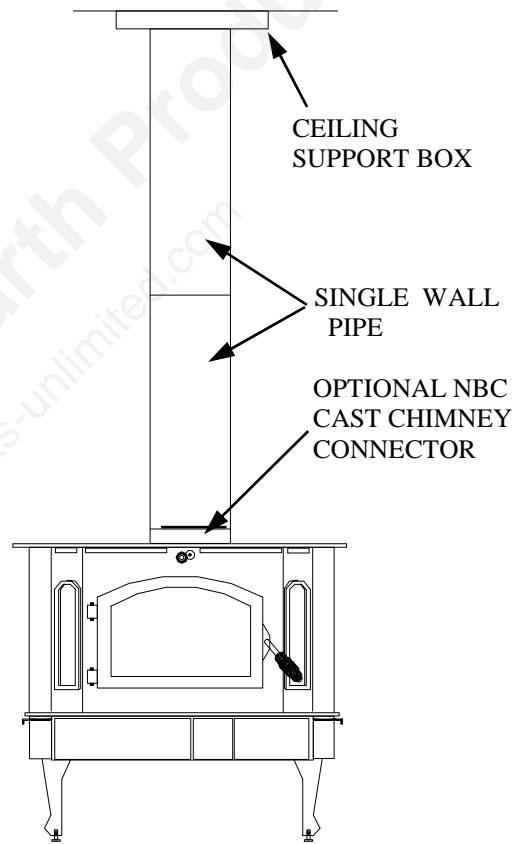

FIGURE 3
3. Connect stove to ceiling support box by using #24 ga. minimum blued or black steel chimney pipe. (DO NOT use galvanized pipe.) Each section should fit into section below or into opening on stove, for drip-free operation. Secure each section together by using at least three (3) sheet metal screws or rivets.
4. You may secure chimney pipe to stove two (2) different ways.
- a. With Optional NBC Cast Chimney Connector, See Figure 3.